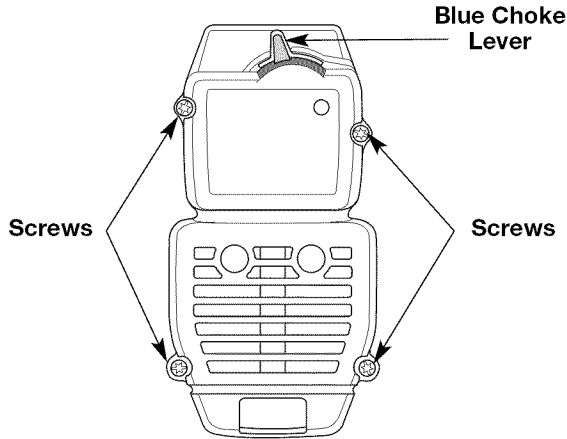

Fig. 24
2. Remove the four (4) screws securing the air filter/muffler cover (Fig. 24). Use a flat blade or T20 Torx bit screwdriver.
2. Insert the four (4) screws into the holes in the air filter/muffler cover (Fig. 24) and tighten. **Do not over tighten.**